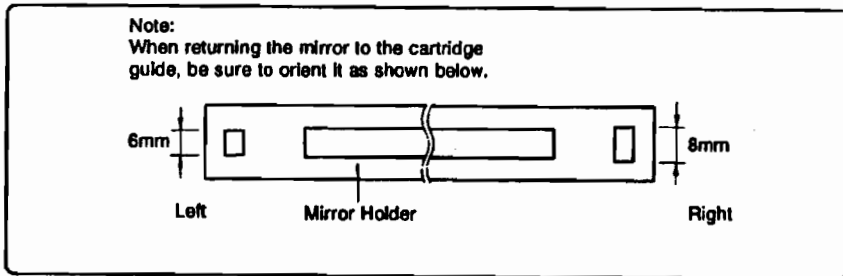
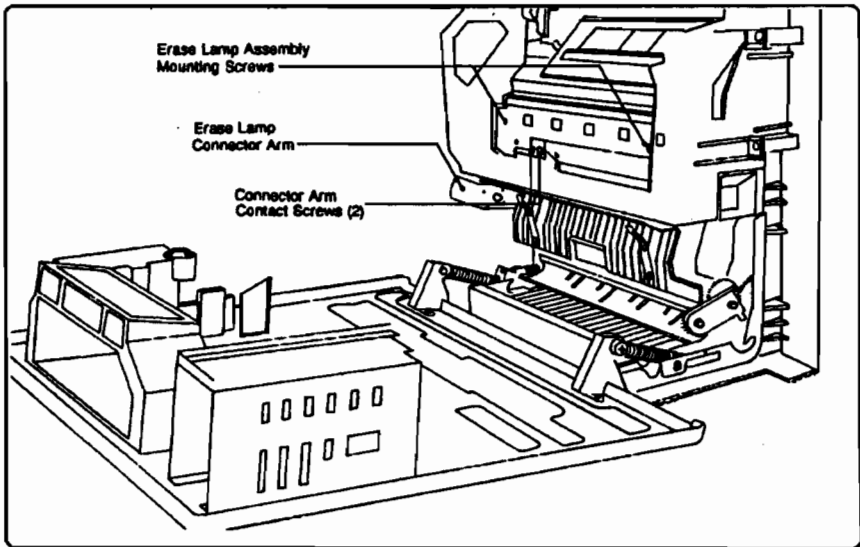
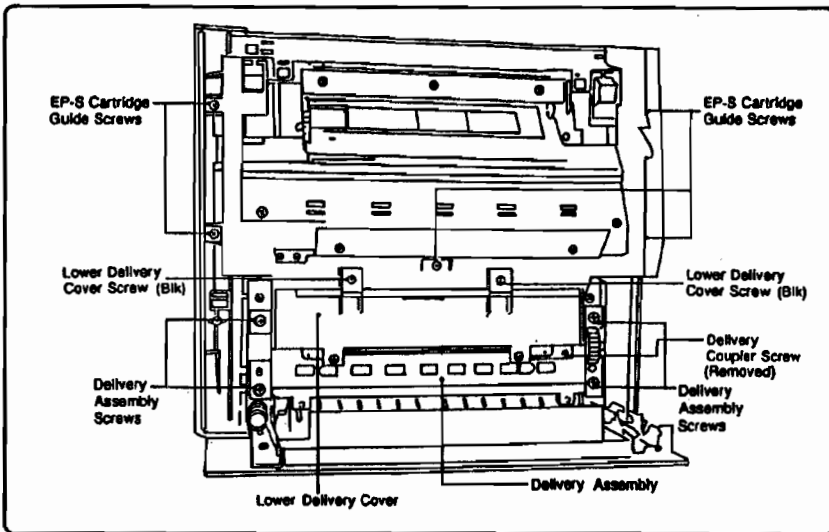

Figure 6-52. Mirror Holder
Figure 6-53. Erase Lamp Assembly
Figure 6-55. Delivery Assembly Removal
3. Remove the (2) screws securing the PCA to the Erase Lamp Connector Arm (see Figure 6-53).
4. Remove the (2) screws on the top face of the Erase Lamp Assembly.
4. Remove the (2) screws securing the Erase Lamp Connector Arm to the Erase Lamp Assembly (see Figure 6-53).
The Delivery Assembly (Figure 6-55) guides printed paper to the Face-Down (Top) Output Tray. Note that removal of the Delivery Assembly itself or the Output Static Eliminator will require separating the Top Cover Assembly from the printer.
3. Remove the Erase Lamp Assembly cover (1) screw, and (2) connector screws.
4. Remove the Erase Lamp Connector Arm (see Figure 6-53).
5. With the Top Cover Assembly resting upside down on the work area, remove the (5) screws securing the EP-S Cartridge Guide and remove the Guide from the Top Cover Assembly. (Minimize disturbance to the Top Cover Assembly to prevent damage to the Mirror Assembly.)
6. Remove the (2) black Lower Delivery Cover screws and the (4) Delivery Assembly mounting screws (see Figure 6-55).
8. Detach the Lower Delivery Cover from the Delivery Assembly by removing the (2) brass-colored screws.
When reinstalling the Delivery Assembly, position the Delivery Coupler Assembly as shown in the inset in Figure 6-55. When reinstalling the Cartridge Guide, be sure to position the Mirror Assembly mounting slots properly (see Figure 6-52).
3. Remove the (1) Delivery Coupler Assembly mounting screw and lift it out (see Figure 6-55).